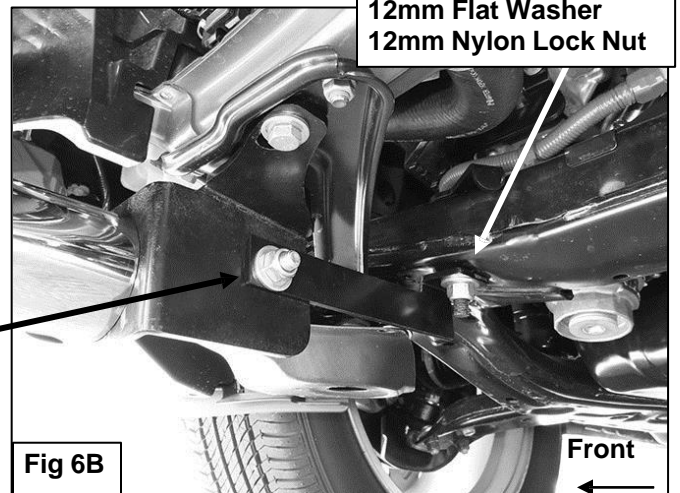
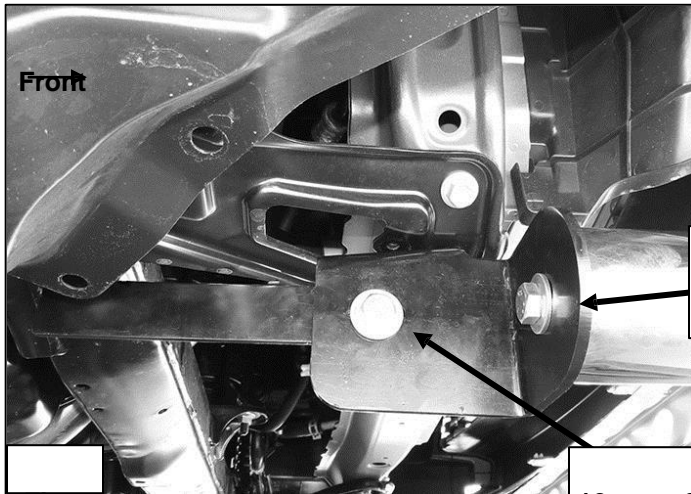
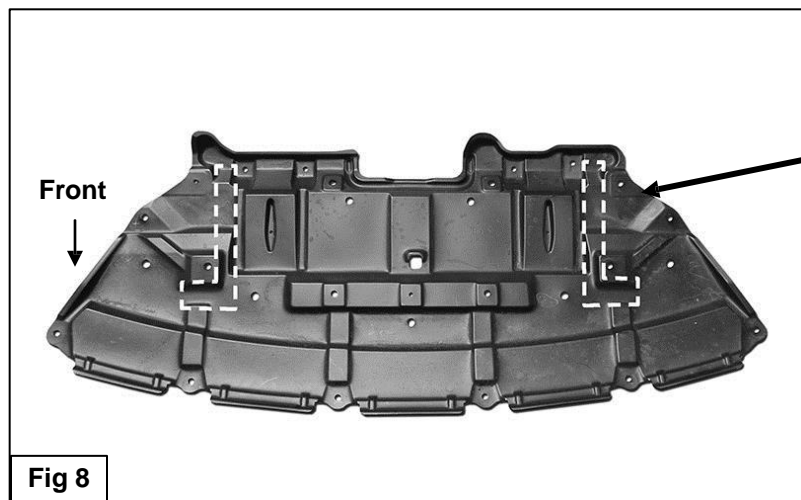

Fig 6B
Fig 7
Fig 8
6. Select the passenger side Support Bracket, (Figure 6A). Attach the end with the bent tab to the Bolt Plate, (see Step 4), with the included (1) 12mm x 32mm STD Flat Washer and (1) 12mm Nylon Lock Nut, (Figure 6B). Attach the flat end of the Support Bracket to the inside of the Mounting Bracket using the included (1) 12mm x 30mm Hex Bolt, (2) 12mm Flat Washers and (1) 12mm Nylon Lock Nut, (Figure 7). Do not tighten hardware at this time. .
7. With assistance, position the Bull Bar up to the Mounting Brackets. Attach the Bull Bar to the Mounting Brackets using the included (2) 12mm x 45mm Hex Bolts, (2) 12mm Lock Washers and (2) 12mm Flat Washers, (Figure 7).
8. Level and adjust the Bull Bar properly and tighten the (2) 10mm Hex Bolts attaching the Mounting
9. Hold the factory plastic splash guard up in its original mounting position and trace the location of the (2) Mounting Brackets and the (2) Bolt Plates onto the inside of the splash guard, **(Figure 8)**. Use a sharp knife or hacksaw blade to cut out the traced area for the Mounting Brackets. **IMPORTANT:** To maintain